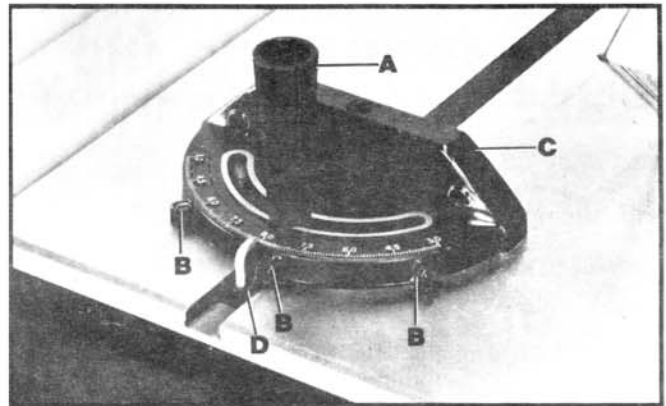

Fig. 50
The miter gage is equipped with adjustable index stops at 90 degrees and 45 degrees right and left. Adjustment to the index stops can be made by tightening or loosening the three adjusting screws (B) Fig. 50.
To rotate the miter gage, loosen lock knob (A) Fig. 50, and move the body of the miter gage (C), to the desired angle.
The miter gage body will stop at 90 degrees and 45 degrees both right and left. To rotate the miter gage body past these points, the stop link (D) Fig. 50, must be moved up and out of the way.